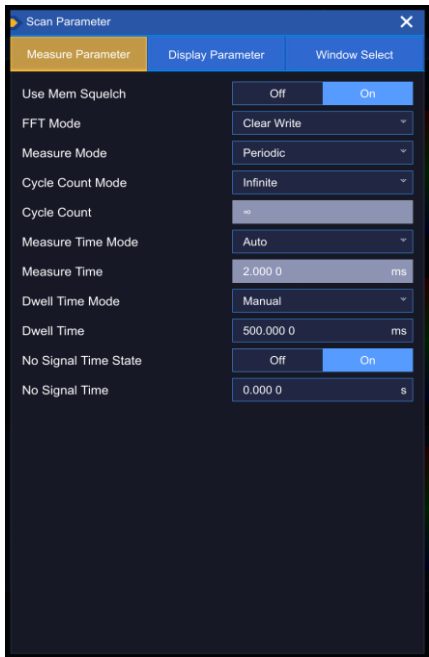

Fig. 4.12 Storage Table Editing
Step 1. Select [System Menu], click list to enter the list menu, and select [Storage Table], as shown in Fig. 4.12.